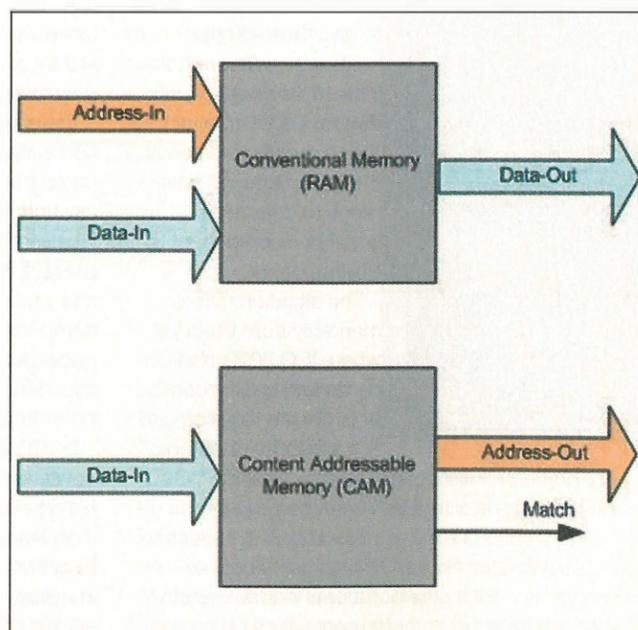

Figure 1: Comparison of CAM and RAM functionality
There is a fundamental distinction between associative memory (AM), also called content-addressable memory (CAM), and conventional memory. Associative memory is content addressable, allowing parallel access of multiple memory words. Some implementations of CAM accept search predicate data as input and produce the address of qualifying words as output (see Figure 1).
tion. A CAM, on the other hand, has the ability to signal the absence of a piece of data (indicated by the 'Match' output line in Figure 1), unlike an explicitly addressed memory, where some data is always read, whether or not it is what is wanted.